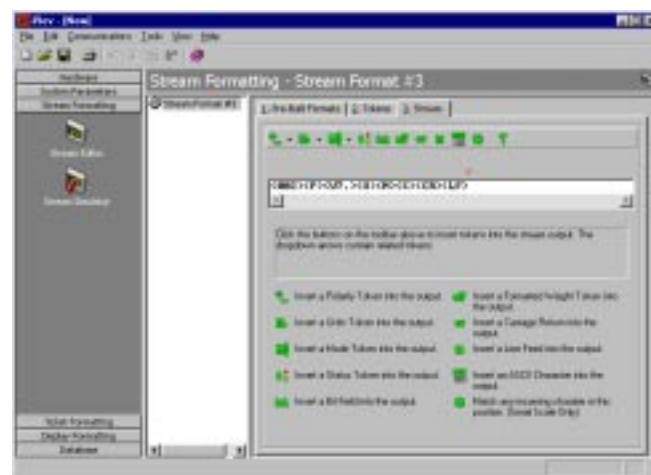

Figure 10-1. *iRev* Stream Formatting Display
*iRev* provides several preset scale formats within its Stream Formatting function. Figure 10-1 shows one of the *iRev* stream formatting displays.